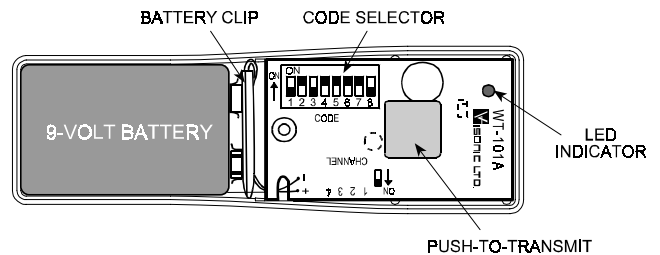

Figure 1. WT-101, Cover Removed
**Model WT-101** (see Fig. 1): This model activates the receiver's "channel 1" output relay.
C. Install the battery clip onto the 9-Volt battery. Position the battery as shown in Figures 1, 2 and 3.